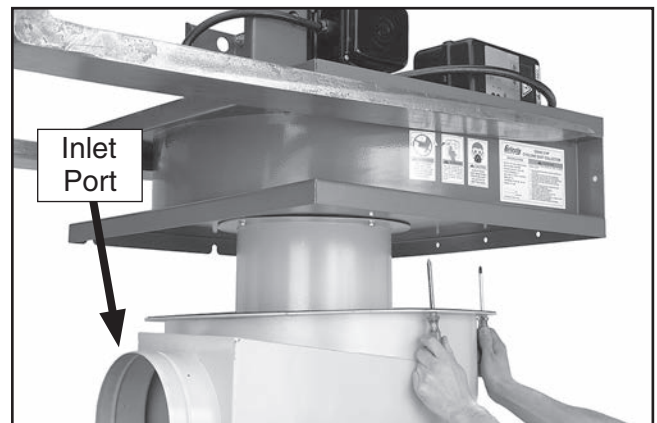

Figure 17. Aligning mounting holes.
16. Using two punches or Phillips screwdrivers as alignment guides (see **Figure 17**), lower blower housing assembly onto intake barrel assembly.
Note: Orient both assemblies so that large, round intake port of intake barrel is NOT directly underneath rectangular outlet port of blower housing (see **Figure 17**). Outlet port connects to canister filters and will not allow room for attachment of intake ducting to intake port.